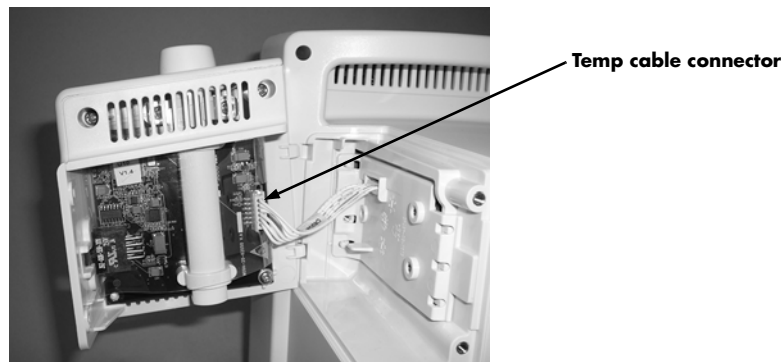

FIGURE 4-2 Disconnect the Temp cable connector.
- b. Disconnect the Temp cable connector from the PCBA as shown in Figure 4-2.